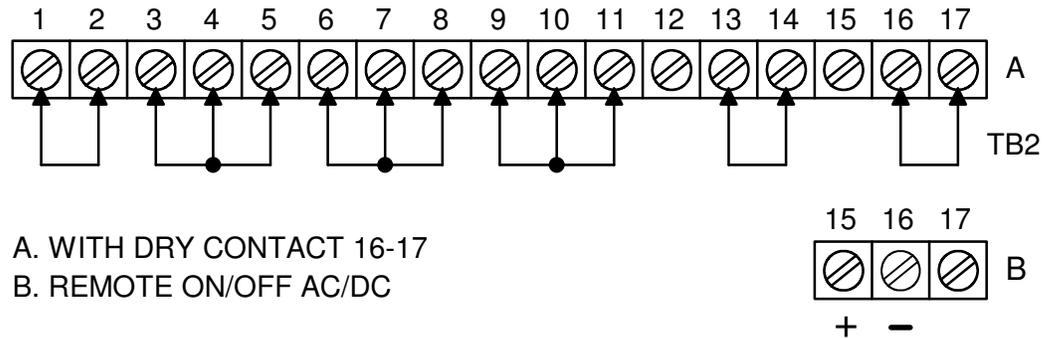

FIGURE 1: NORMAL OPERATION
- 2) Check the barrier jumper straps on the back of the unit, as shown in Figure 1, showing TB2 strip-normal operation.
- 4) Turn the CIRCUIT BREAKER (1) on/off switch to "on". The fans will start immediately but there is a 10 to 15 seconds delay before voltage or current output will occur. This is caused by the soft start circuit.
- 5) The PHASE LOSS INDICATOR (2) should be off.
- 6) Advance CURRENT CONTROL (6) one-half turn and slowly advance VOLTAGE CONTROL (3). The DC VOLTMETER (4) will deflect from zero to maximum rating of the supply as this control is advanced completely clockwise. The VOLTAGE INDICATOR (5) will be lit.
- 9) Turn the circuit breaker-on/off switch to "on". Advance the VOLTAGE CONTROL (3) one turn clockwise and slowly advance the CURRENT CONTROL (6). The DC AMMETER (7) will deflect smoothly from zero to the rated current of the supply as this control is advanced clockwise. The CURRENT INDICATOR (8) will be lit.
III.3.1 normal operation (Figure 1)